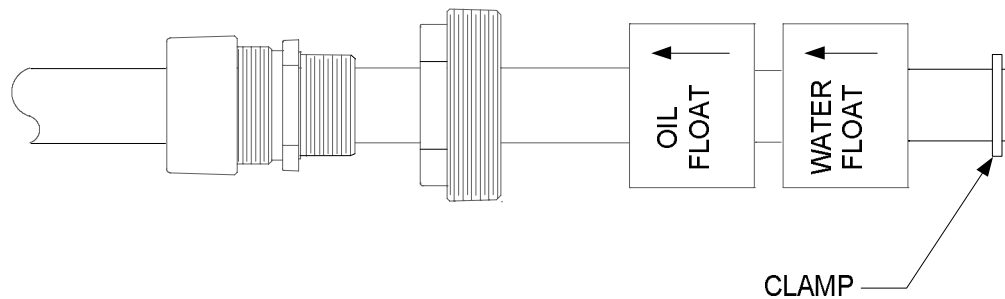

Figure 12: Casing clamp installation
7. Use the Phillips screwdriver to tighten the clamp 1 inch above the bottom of the casing (Figure 12). Considerable force may be required to lock the clamp on tight.